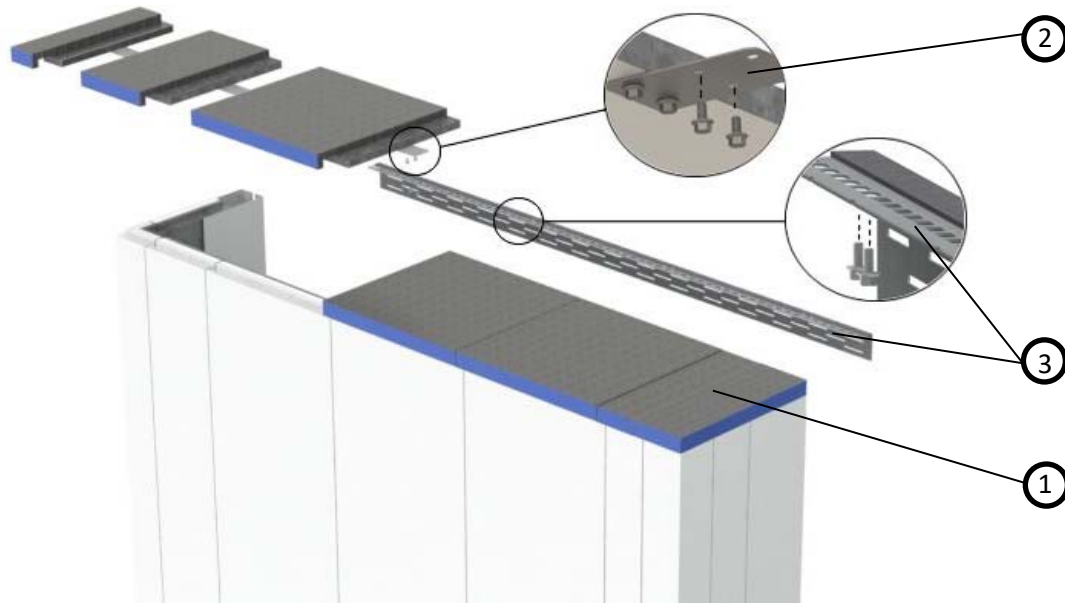

Figure 1. Example of FireblockWall Cap Installation.
- 2. JOINER PLATES:** Fasten panel to panel joints using STARC-provided joiner plates. Use a min. of 1 plate on both top and bottom sides of each panel (Item 1) using 2, 1/4×20 flanged hex head screws per panel, per side, or 4 total per plate, aligning holes of plate with predrilled holes on panel (Item 1), as shown in Figure 1.
holes on underside of each panel (Item 1) as shown in Figure 1.